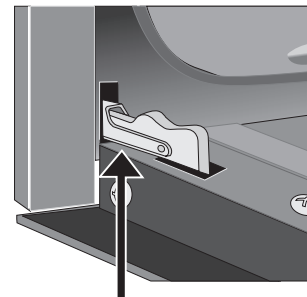
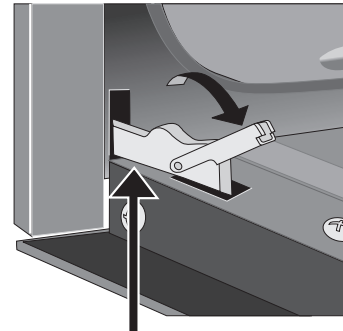

Figure 45: Door hinge locks/unlock positions
Figure 46: How to remove door
2. Pull up the lock located on each hinge support toward front of the oven. You may have to apply a little upward pressure on the lock to pull it up (Figure 45 and Figure 46).
4. Push the door hinge locks up toward and into the oven frame on both left and right oven door hinges to the locked position (Figure 46).